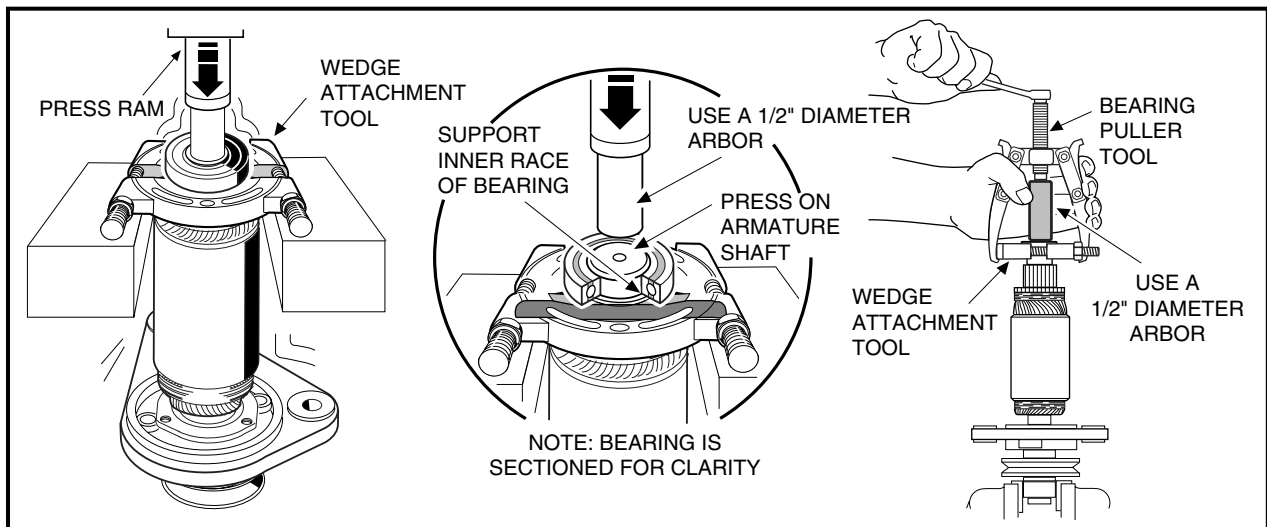

FIGURE 12-44
1. Place the wedge attachment tool (Club Car Part No. 1012812) between the bearing and the armature. Make sure the wedge attachment tool is supporting the inner race of the bearing but is not contacting the armature shaft. If a press is not available, secure a bearing puller (Club Car Part No. 1012811) to the wedge attachment tool and pull the bearing off of the end of the armature shaft. Support the armature so that it will not drop when the bearing is removed (**Figure 12-44**).